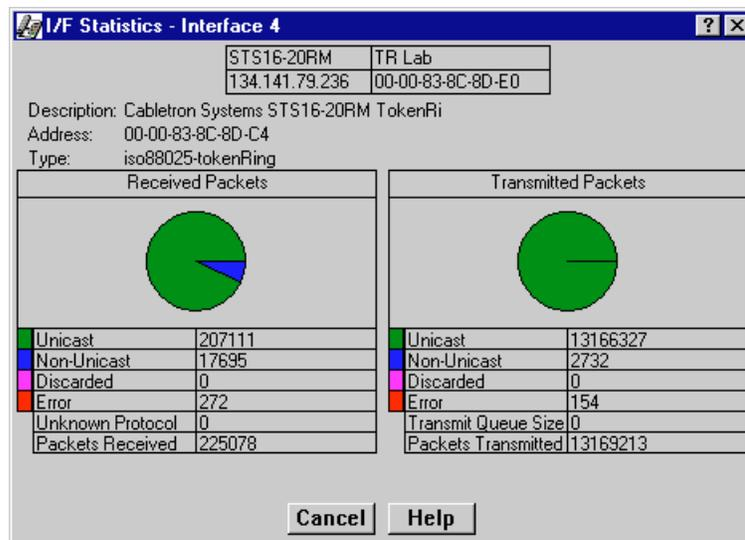

Figure 2-9. Interface Statistics Window
2. Click on the **Detail** button; the I/F Statistics window, as shown in Figure 2-9, will appear.
2. Click on **I/F Statistics**; the I/F Statistics window, as shown in Figure 2-9, will appear.